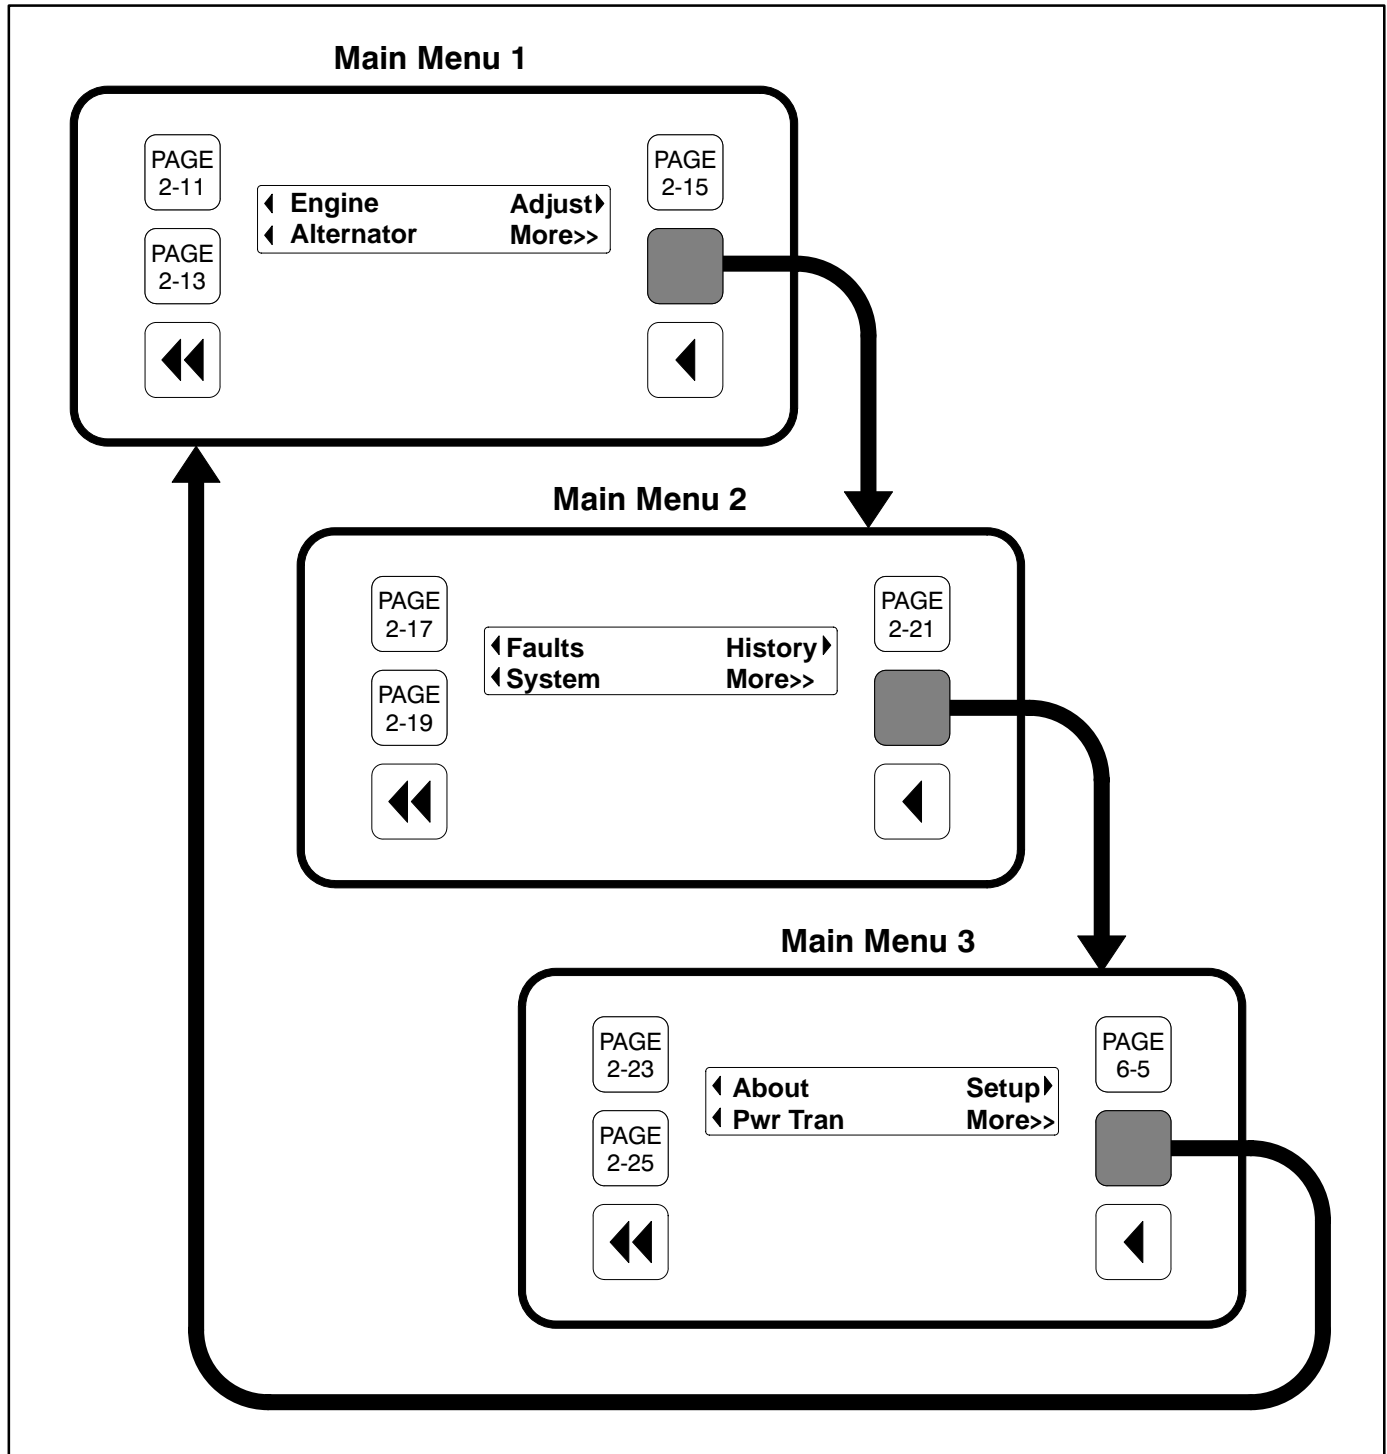
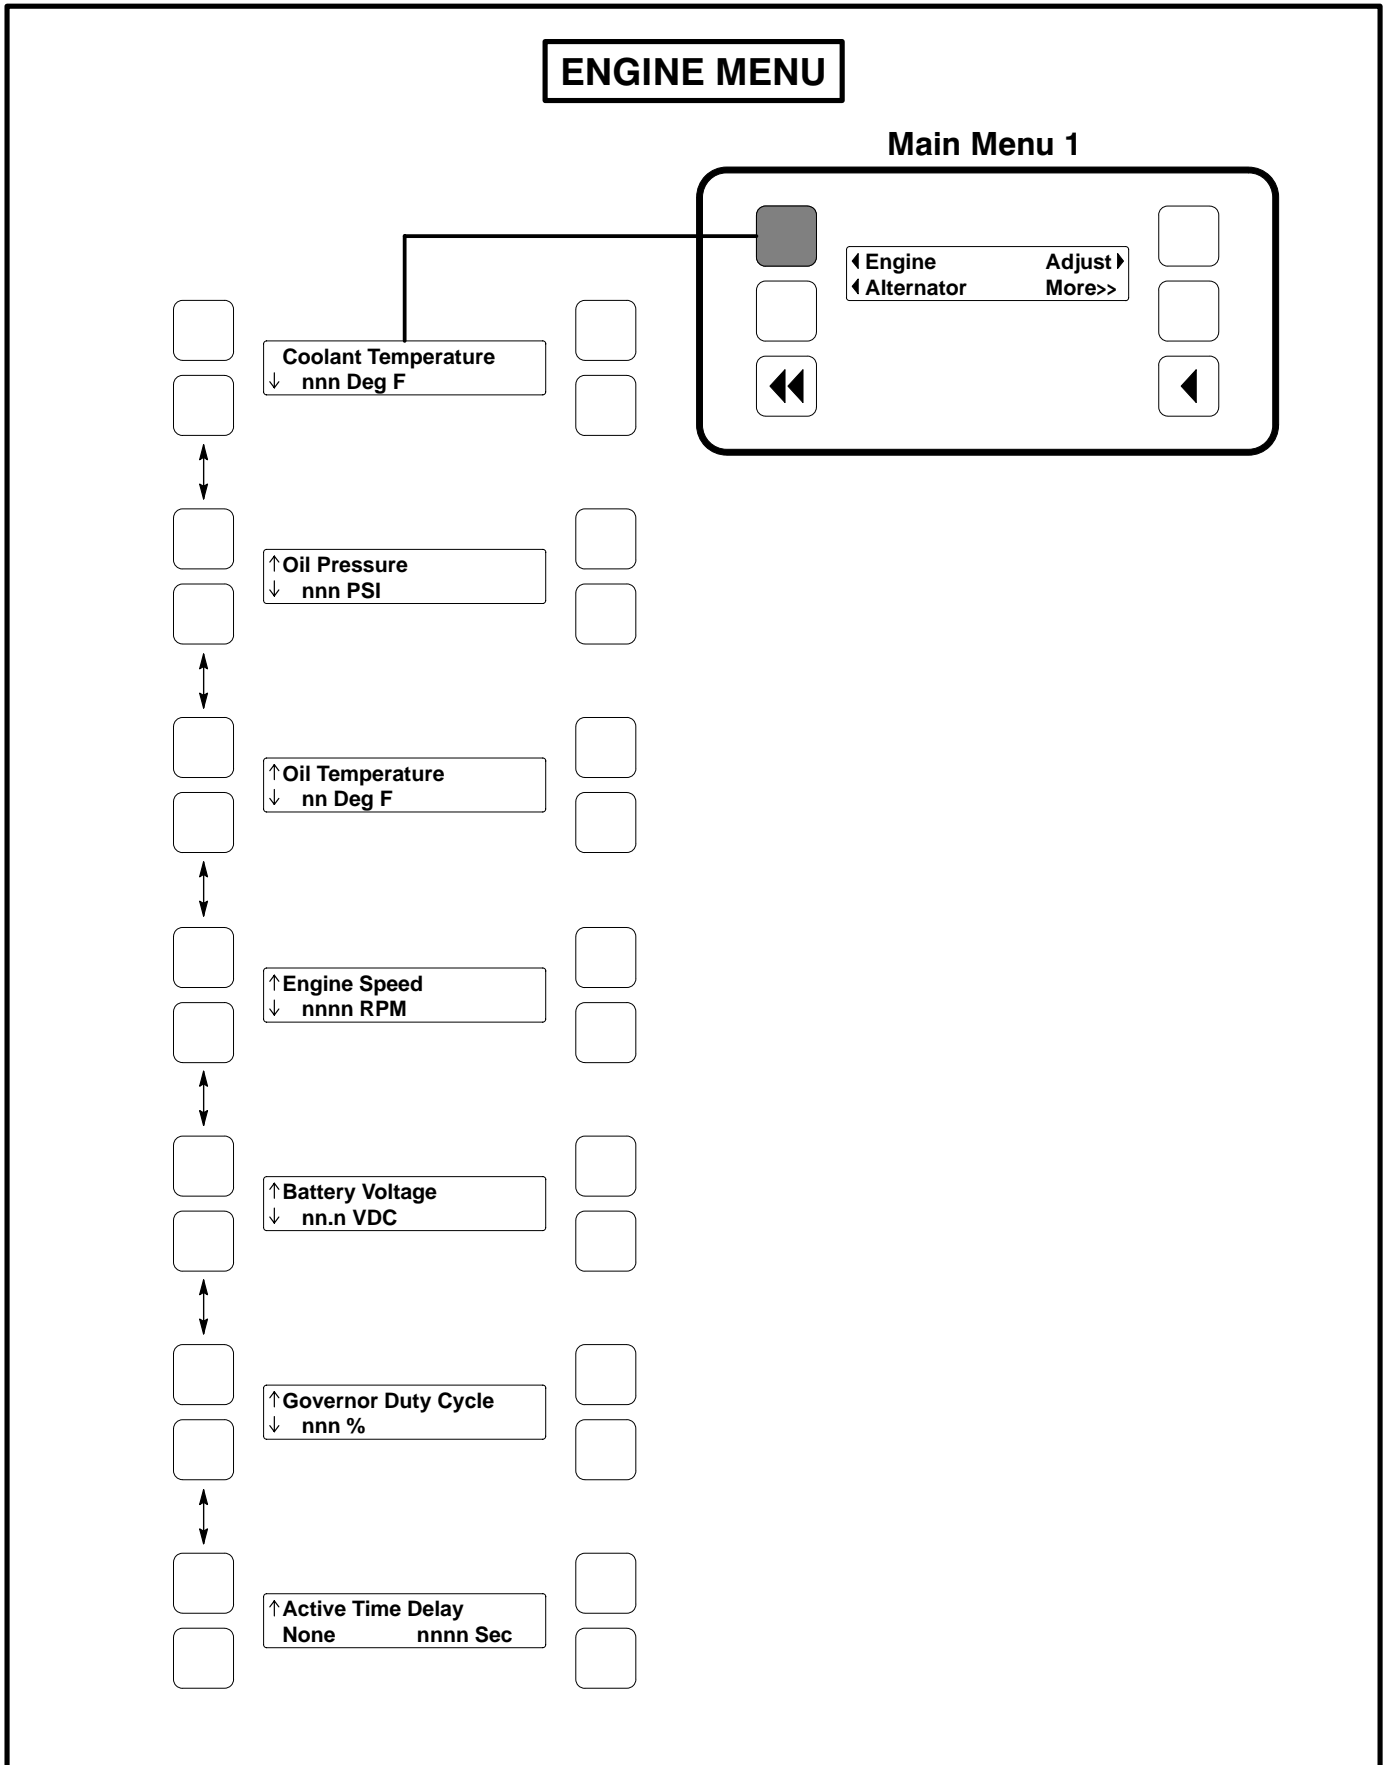

FIGURE 2-3. MAIN MENUS
FIGURE 2-5. ENGINE MENU
- In the digital display for main menus (Figure 2-3), the ◀ and ▶ symbols indicate that pressing the adjacent button causes the operating program to go to the selected submenu (e.g., Engine Menu in Figure 2-5).
- In the digital display, the More>> symbol indicates that pressing the adjacent button causes the operating program to go to the next main menu, as shown in Figure 2-3.
Home Button: Pressing this button causes the operating system to show Main Menu 1 (Figure 2-3) in the digital display.
Figure 2-3 shows the three major main menus available to the user. Figure 2-3 also includes references to pages in this section where you can find additional information on submenus. When viewing a submenu, you can press the previous main menu button at any time to view its main menu.
Figure 2-5 shows a block representation of the Engine menu. If you press the button next to the word “Engine” in the display, the first Engine submenu is displayed.